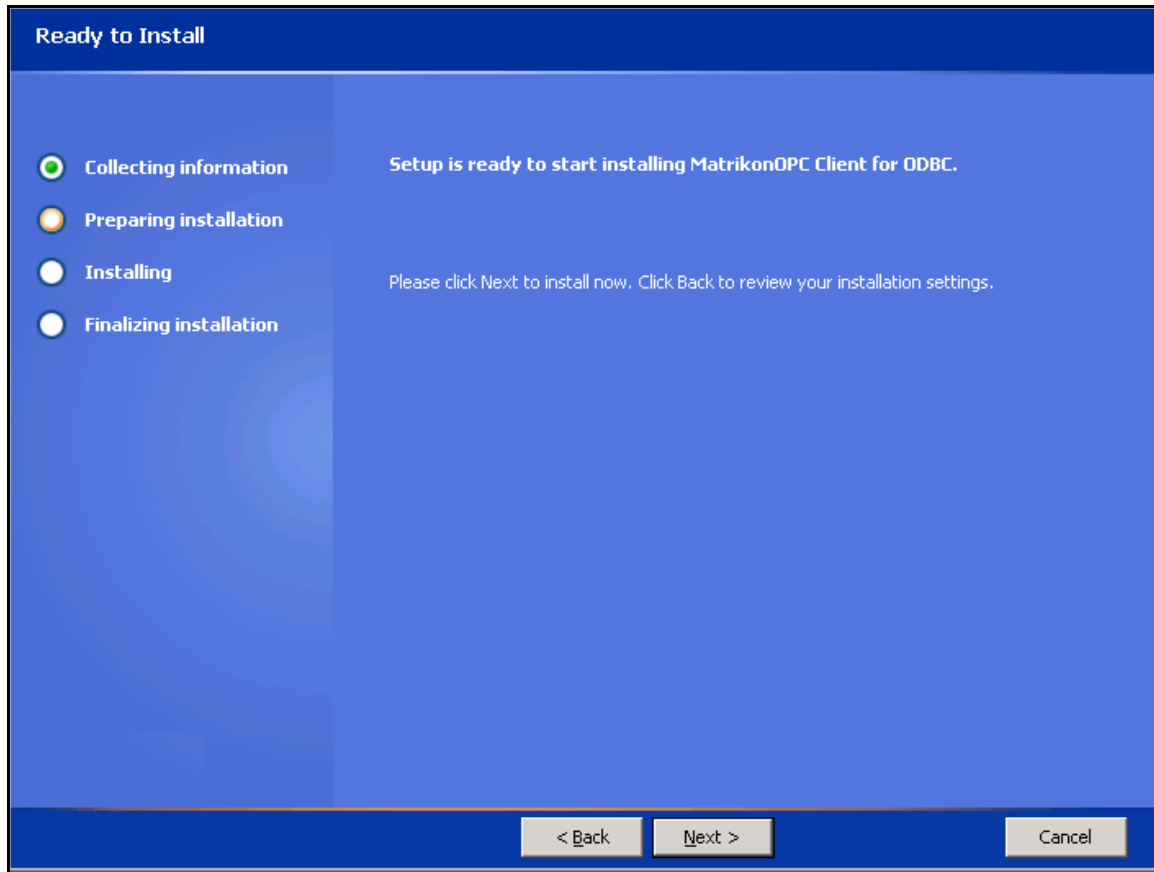

Figure 8 – Ready to Install screen
15. Click on the **Next** button. The **Ready to Install** screen (Figure 8) appears.